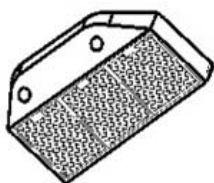

Fig.13
1. Using the screwdriver to turn the three screws at the front of bottom board. (Fig. 13)